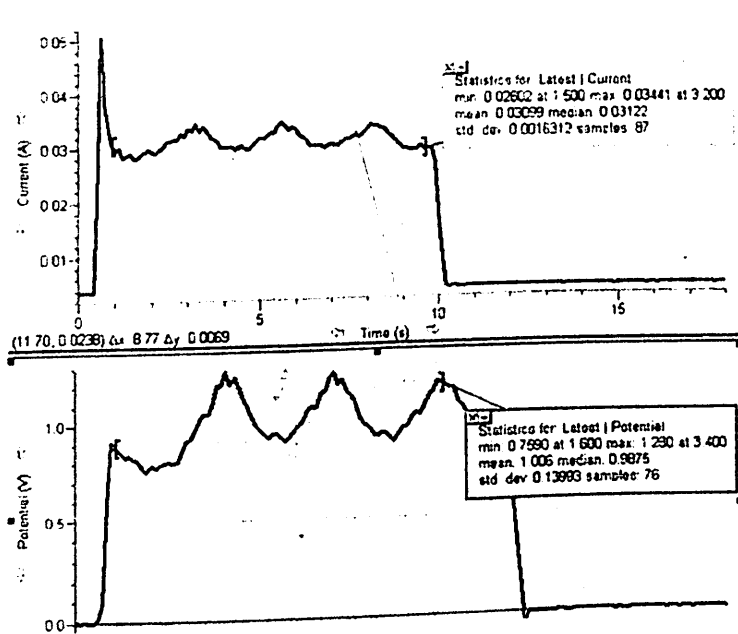

Figure 5.3.3 Current and Voltage produced by the generator.
3. Repeat the experiment while collecting quantitative data by measuring current, voltage, distance traveled by the hanging mass, and the time it takes to travel this distance. Record the data in Table 5.3.1. See Figure 5.3.3 with sample data from Vernier current and voltage probes.